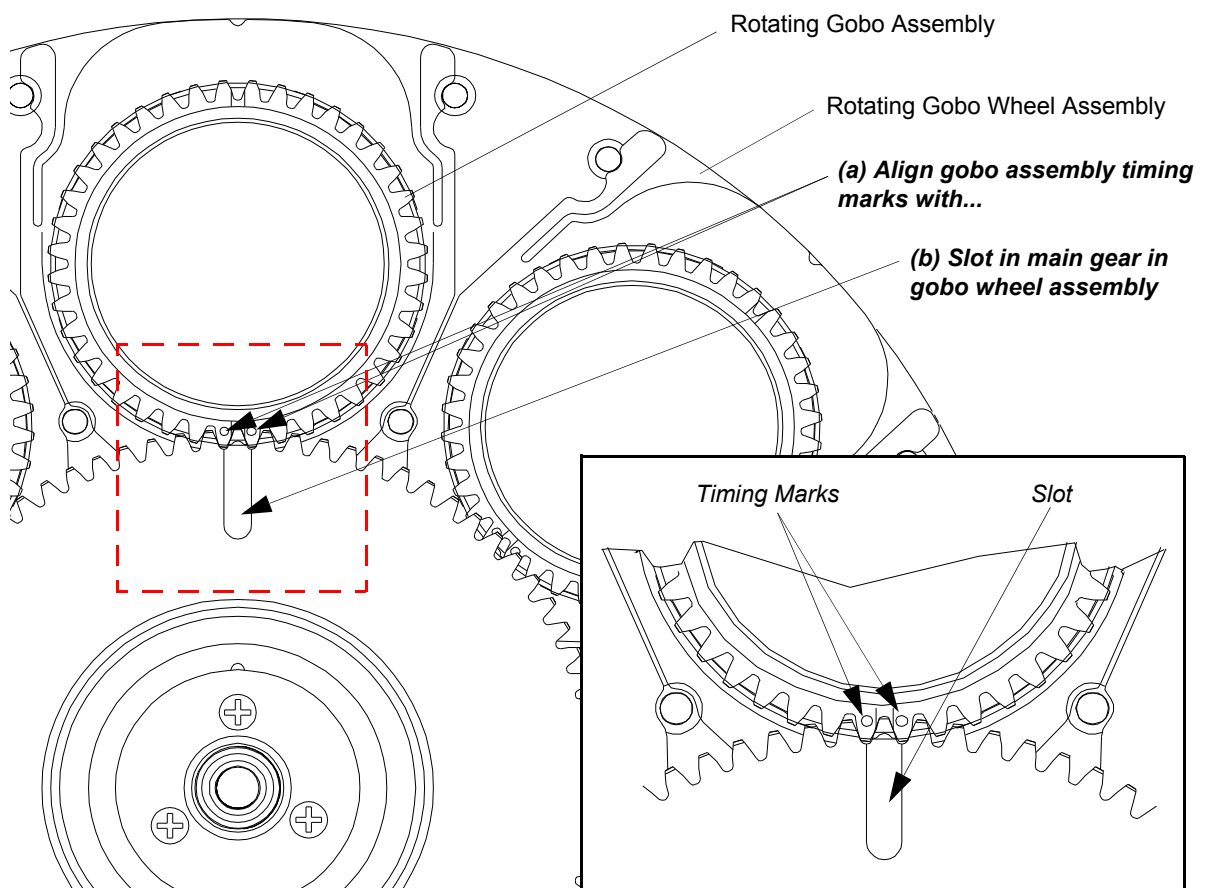

Figure A-8: Rotating Gobo Wheel - Gobo Clocking
- Step 6. **Before installing gobo assembly into rotating gobo wheel assembly**, make note of relationship between carrier and main gear slot as illustrated in Figure A-8.